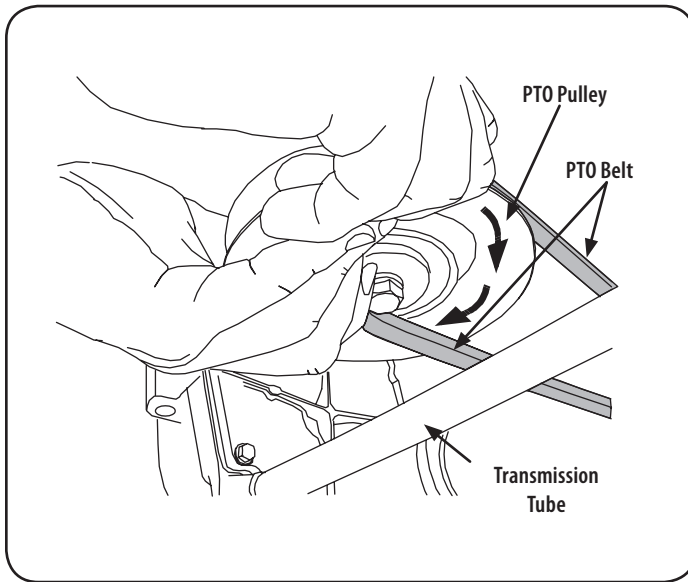

Figure 32
- d. While still holding the belt downward, continue turning the PTO pulley until the belt is rolled off the pulley. Refer to Figure 32.
11. Pull the right side of the belt rearward and place the narrow V side of the belt into the PTO pulley. See Figure 32.
12. While holding the belt and pulley together, rotate the pulley to the left (See Figure 32). Continue holding and rotating the pulley and belt until the belt is fully rolled into the PTO pulley.